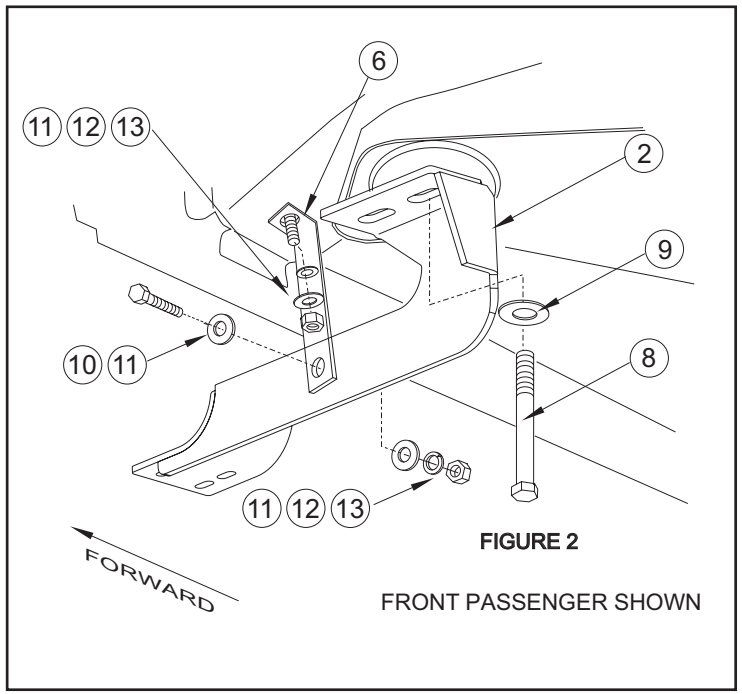

FIGURE 2
- STEP 2.** Remove existing body mount bolts as shown. **SEE FIGURES 2 AND 3.**
- STEP 3.** Install front and rear brackets as shown. Hand tighten. **SEE FIGURES 2 AND 3.**